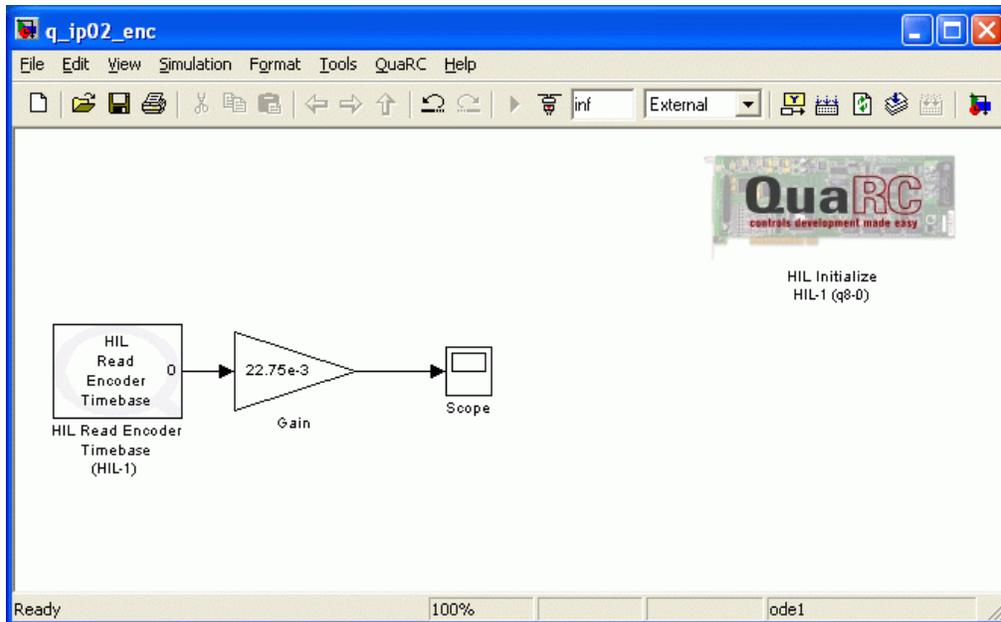

Figure 11 Measuring from the IP02 Cart Encoder
To monitor and measure the actual position of the IP02 cart, as sensed by the cart encoder, using a Simulink diagram similar to as shown Figure 11 with QUARC.
The Simulink diagram designed previously is modified to include an encoder measurement, as illustrated in Figure 11, above.
7. Connect the Scope and Gain blocks as depicted in Figure 11, above. Thus connect the Gain block to the output labeled θ of the HIL Read Encoder Timebase block and connect the output of this gain block to the input of the Scope block.